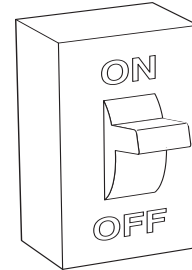

Fig. 10 – Turn On Electrical Supply
- Turn ON the electrical supply to the furnace, see Fig. 10.
- Turn on electrical supply to furnace, see Fig. 10.